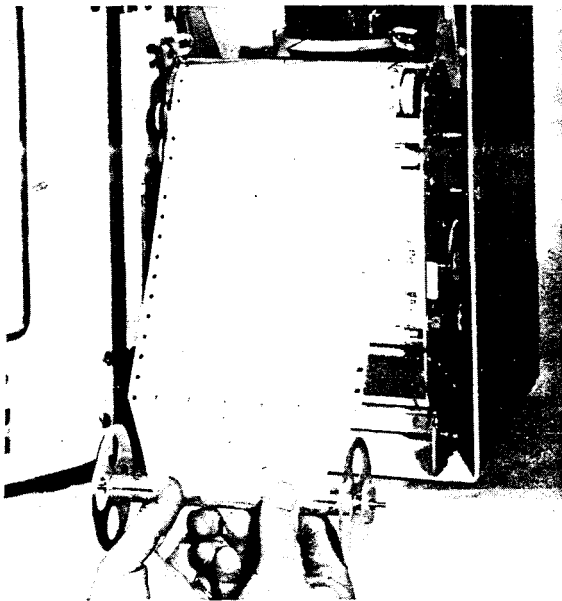

Fig. 6e
8. Tear the end of the chart paper into a V as shown in Fig. 6e.